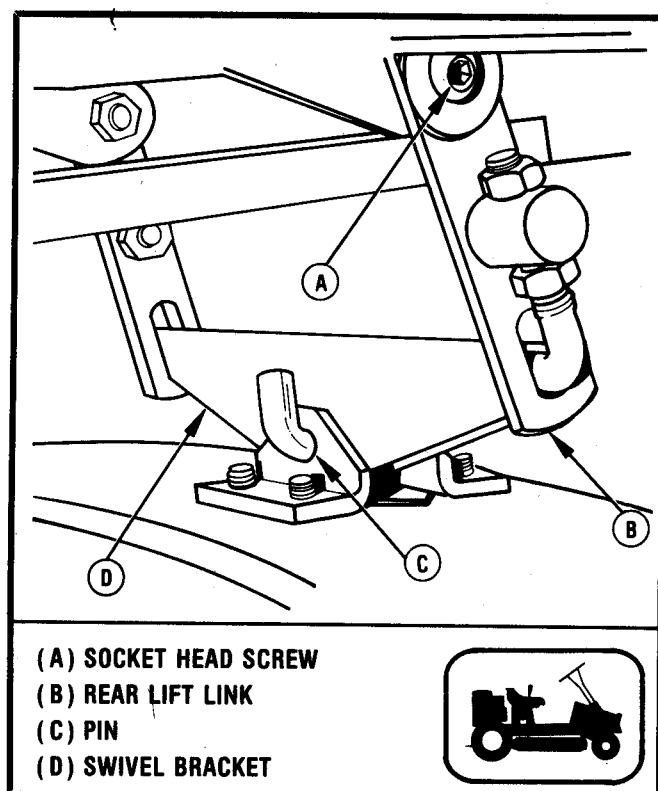

FIGURE 1-16
- a. After checking for the mower blade pitch, adjust the up or down movement of the threaded ends of the rear lift rod in the pivot by loosening the upper and lower jam nuts. Be sure to adjust each side of the assembly equally. Refer to Figure 1-16.